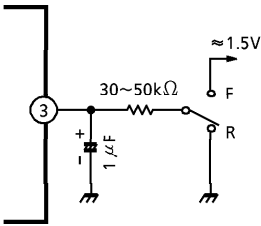

Fig.2
② The recommended forward /reverse select circuit is shown in Fig.2.